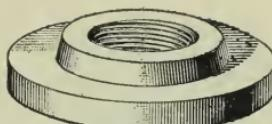

FIG. 35
**49.** Fig. 35 shows a **common flange** threaded inside to receive the pipe. The bolt holes are not shown in the figure; these are usually drilled to correspond with the bolt holes of the apparatus to which the flange is intended to be bolted. Solid and common flanges can be procured in stock sizes without bolt holes.